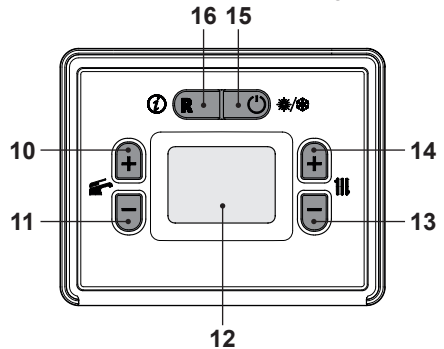

Fig. 8.29
- By using buttons 13 or 14 (Fig. 8.29) it is possible to modify the value of parameter A49:
- Press 10 or 11 (Fig. 8.29) to confirm the value entered and return to the list of parameters (Fig. 8.30).
- Press the 15 (Fig. 8.29) to exit “programming mode”.